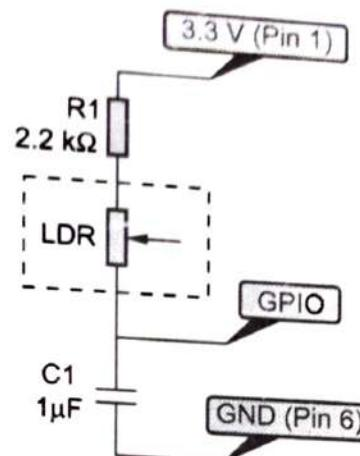

Fig. 6.4.6 : Circuit diagram for LDR
- Fig. 6.4.6 shows circuit diagram for above configuration.